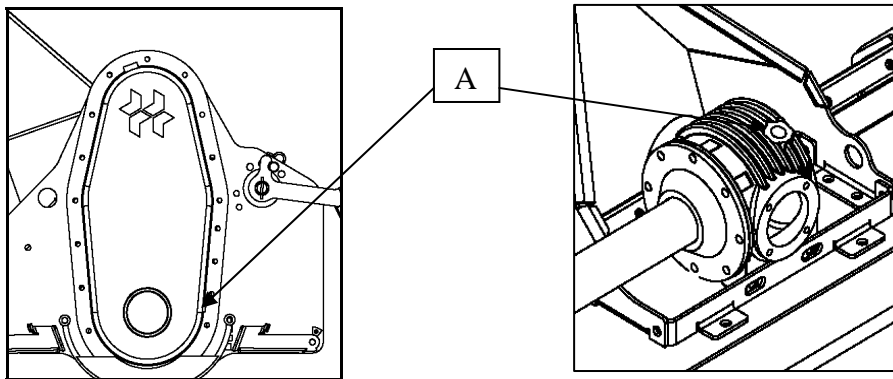

Fig. 3
1. The gearbox filled to the dipstick mark (A) (1 l) Fig 3.
2. The side drive is filled to the level plugs (A) - (1 l). Fig 3.